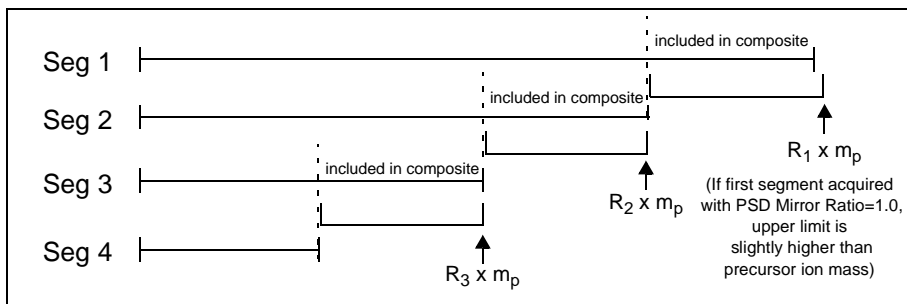

Figure 8-3 Portions of Segment Traces Included in the Composite Spectrum
- Using the precursor ion mass and calibration constants from the PSD calibration in the .DAT file (see “PSD calibration equation” below), determines the region of each segment to include in the composite spectrum as illustrated in Figure 8-3 on page 8-7.
The composite spectrum is generated from portions of the segment traces. The upper mass limit of the composite region in each segment is determined by the PSD Mirror Ratio (R_n) with which the segment was acquired and the mass of the precursor ion (m_p) (Figure 8-3).